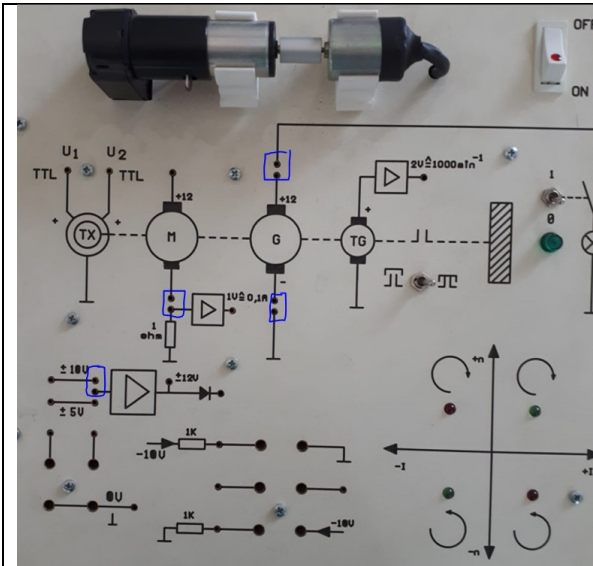

Figure 3: black-jumper connection points
- 3) Using the black-jumpers [depicted in Figure 2], close the circuits as shown in Figure 3.